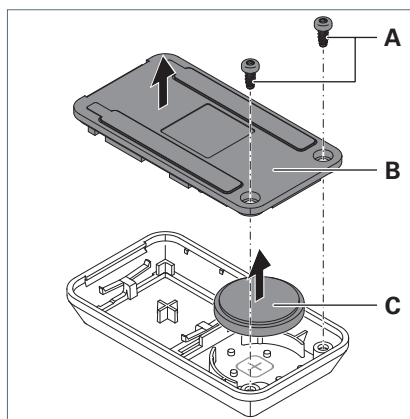

Fig. 26: Battery replacement.
- ▶ Unscrew the screws **A** from the rear panel **B** of the control element, see Fig. 26.